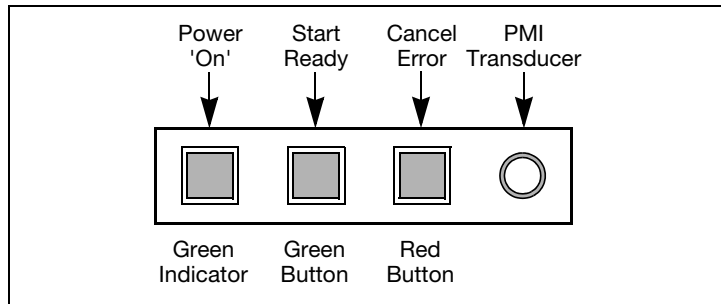

Fig. 4-2. The top panel of the PMI Controller box.
5. Connect the Pressure Transducer to the PMI Controller and the multipole plug of the PMI Controller to the Junction Box. See Fig. 2-2 and Fig. 4-2.